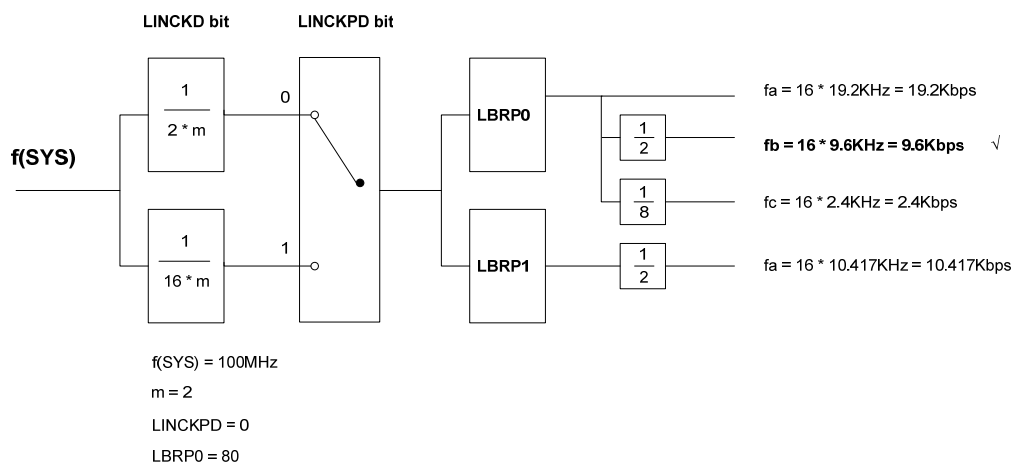

Figure 5.1 Baud rate Generation Block Example
- Set LIN communication baud rate. Figure 5.1 shows baud rate generation block example.